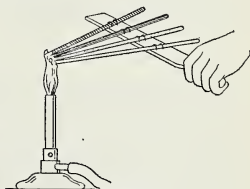

Fig. 189.
*Why do pots have wooden handles?* Arrange rods of iron, copper, aluminum, and glass on a wooden holder as in Figure 189. Attach drop of candle grease to outer ends. Heat inner ends. Note order in which drops of candle grease melt. Does the wooden handle become too hot to hold? Which substances are good conductors and which poor conductors of heat?